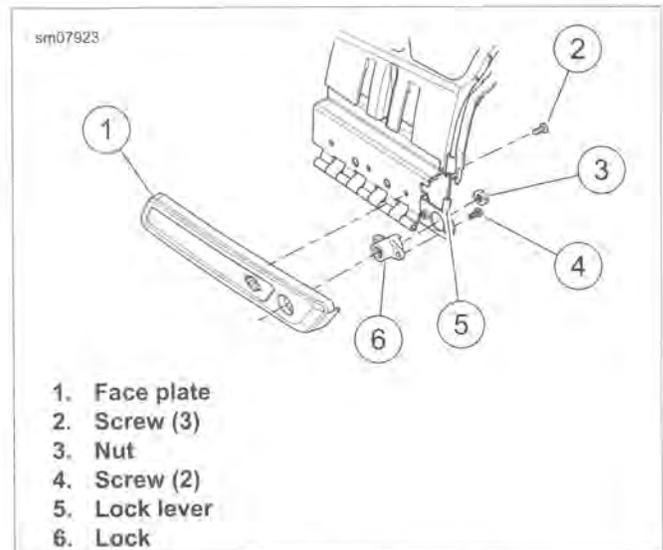

Figure 2-115. Saddlebag Lock
1. See Figure 2-115. Hold face plate (1) while removing screws (2). Remove face plate.
2. Remove nut (3). Remove lock lever (5).
3. Remove two screws (4).
6. Secure with two screws (4). Tighten to 20-30 **in-lbs** (2.3-3.4 Nm).
7. Install lock lever and secure with nut (3). Tighten to 25-35 **in-lbs** (2.8-3.9 Nm).
8. Secure face plate with screws (2). Tighten to 40-45 **in-lbs** (4.5-5.1 Nm).